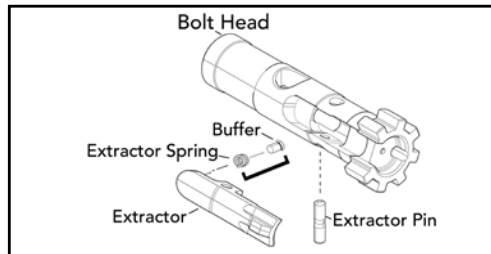

Fig. 42 – Extractor reassembly
- a. Mount the extractor spring and buffer onto the extractor, ensuring that the wider surface of both the spring and buffer are mounted on the circular mounting surface on the extractor and that the tapered (narrower) surface faces upwards (Fig. 42).